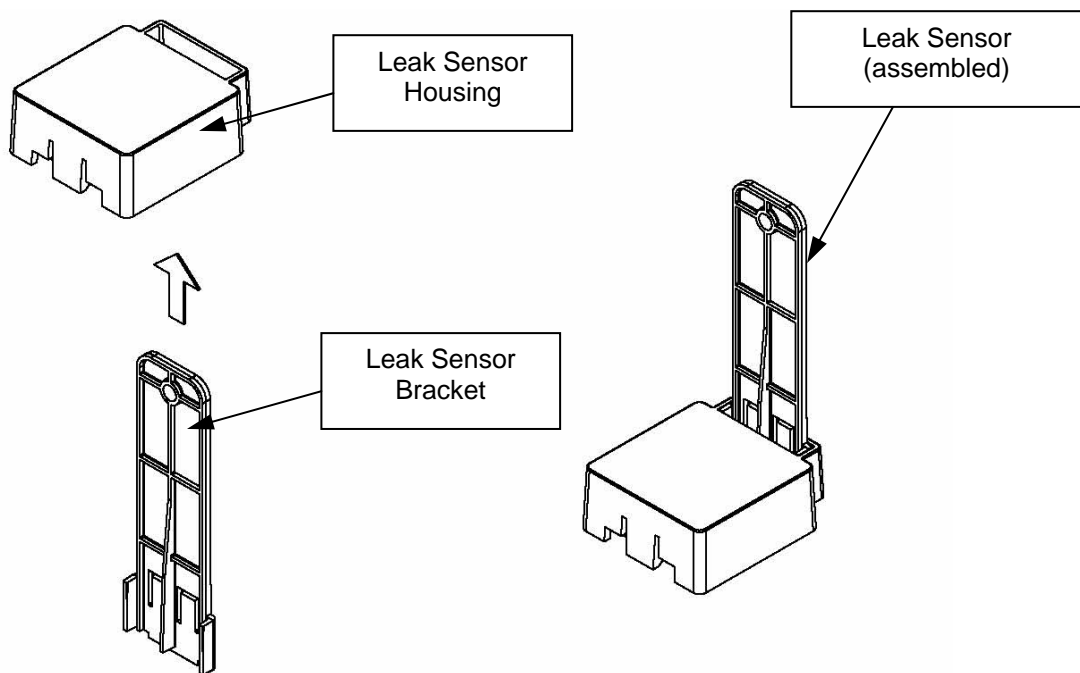

Figure 53
Step 2: Insert the Leak Sensor bracket into the Leak Sensor housing, as shown in Figure 53.